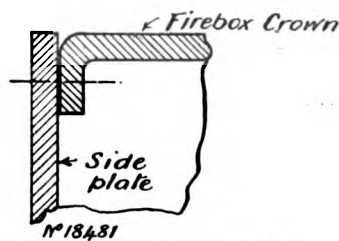

FIG. 3.—FIREBOX CROWN JOINT.
(1) The head formed by the hammer should be on the outside. Of course, if a "snap" is available, cup-headed rivets may be formed instead of the countersunk shown. (2) The engine is a little large for the boiler. We would suggest 1 1/4 ins. by 2 ins. (3) The pressure maintained will depend on the speed. An engine having a cylinder of the size just mentioned coupled to this boiler would run at 30 lbs. pressure and 250 r.p.m. The boiler may be pressed to 40 or 50 lbs. (4) Use 1/4-in. or 3/16ths-in. safety valve and 5/16ths-in. outside diameter steam pipe, with a suitable steam stop valve. (5) The feed-pump may be 5/16ths in. diameter, with a stroke of 3/8 in. A small injector might be fitted, but a properly adjusted feed-pump will give better satisfaction. (6) We do not recommend a donkey pump where the boiler is rather small for the work it has to do. (7) The theoretical indicated horse-power of the plant is about 1-10th i.h.-p. Good workmanship and perfect adjustment of parts will be necessary to obtain this amount of power. We recommend you to make the crown joint of firebox as Fig. 3 and not with the flange turned upwards. The fire-door should be figured as on the reproduction of your sketch. It is a mistake to make it too small and too low.